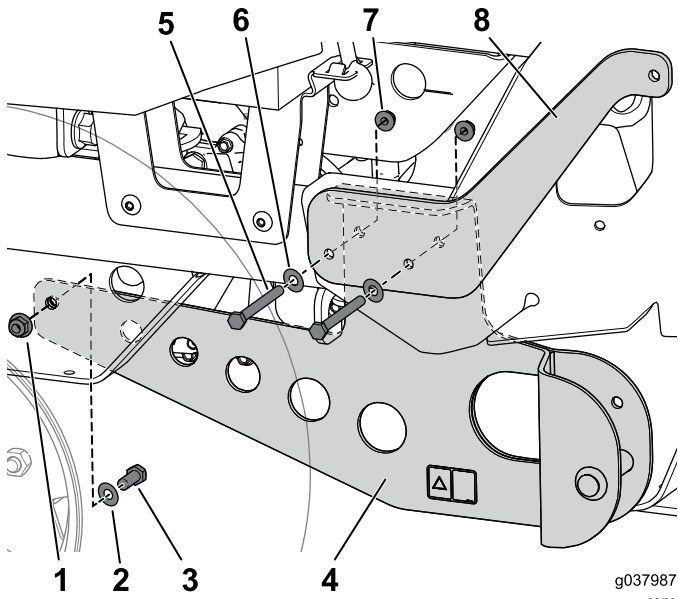

Figure 13
5. Loosely install the bolt (1 inch), washer, and flange nut that secures the bagger mount to the transmission mount (Figure 13).
6. Align the holes in the bagger mount to the 2 bolts that you inserted earlier and secure it with the 2 flange nuts (Figure 13).